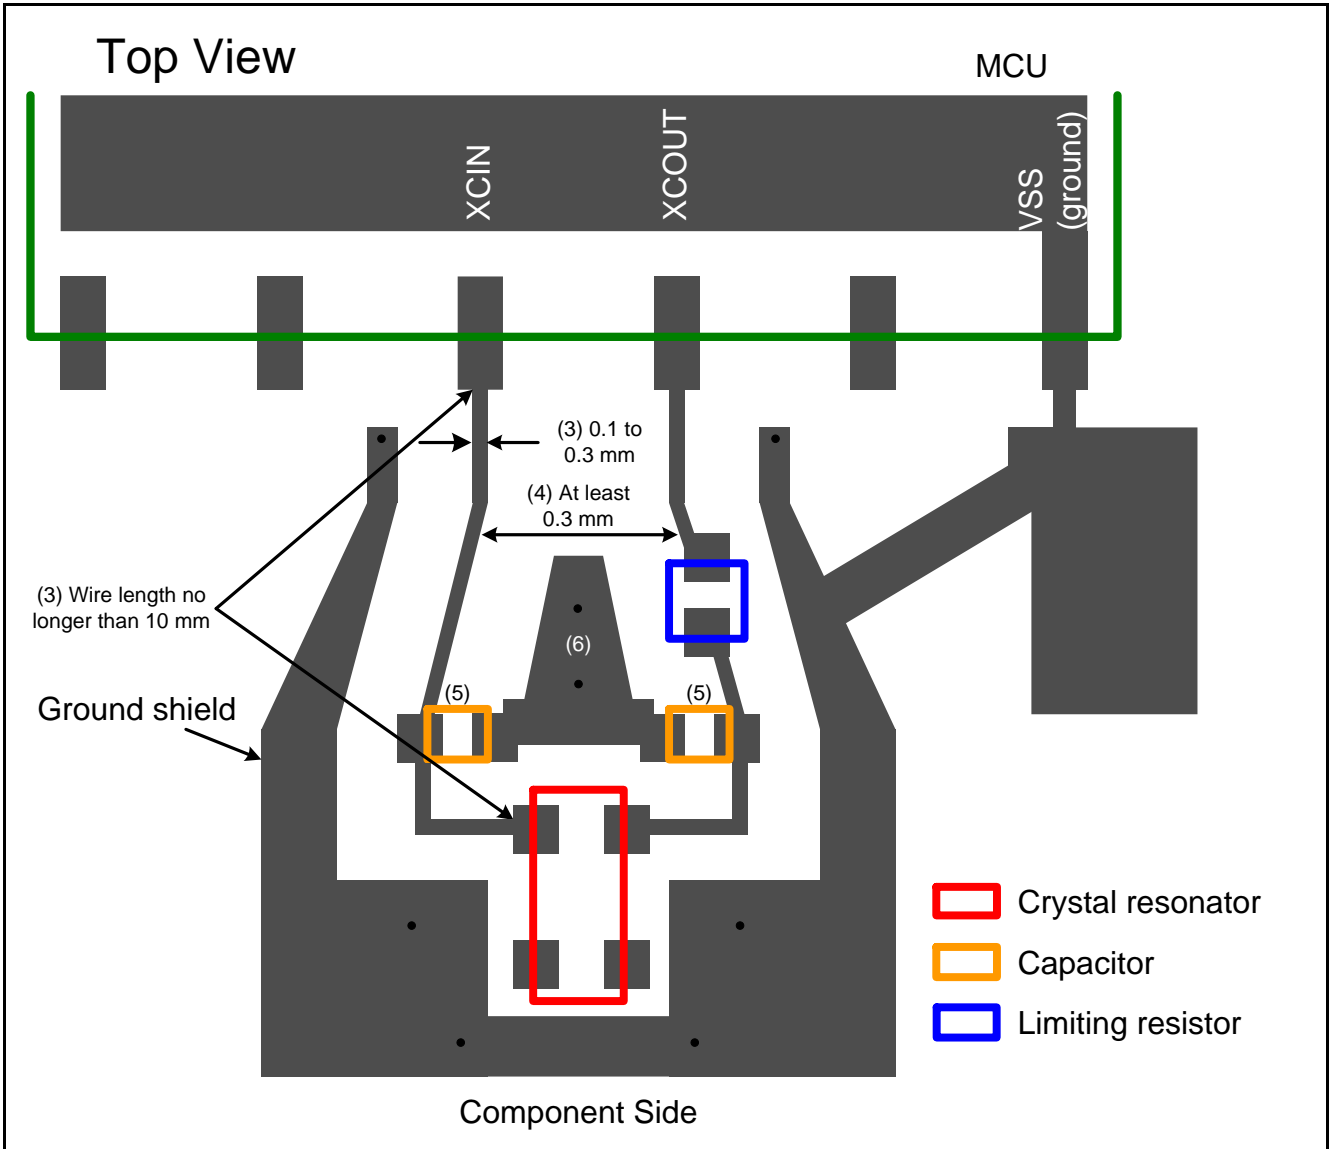
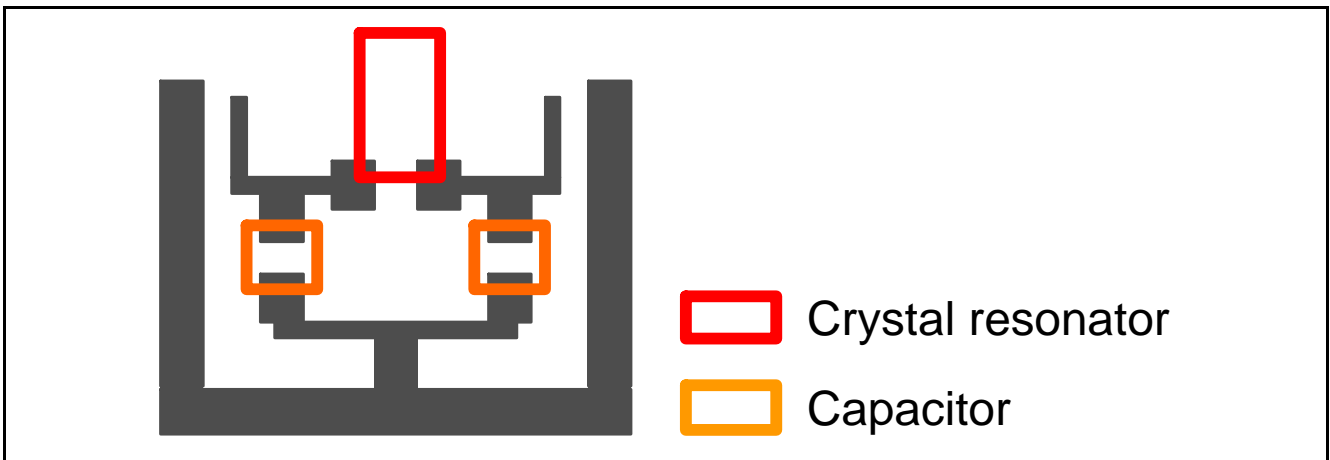

Figure 1.1 Example of Preferred Trace for XCIN and XCOU Wiring
Figure 1.2 Example of Alternate Trace for XCIN and XCOU Wiring
(1) to (6) below describe points on wiring for XCIN and XCOUW. Figure 1.1 shows an Example of Preferred Trace for XCIN and XCOUW Wiring. Figure 1.2 shows an Example of Alternate Trace for XCIN and XCOUW Wiring.
- (1) Do not cross the XCIN and XCOUW wires with other signal wires.
- (2) Do not add an observation pin to XCIN and XCOUW.
- (3) Make the XCIN and XCOUW wire width between 0.1 and 0.3 mm. The wire length from the MCU pins to the crystal resonator pins should be less than 10 mm, or at least as close to 10 mm if longer.
- (4) The wire connected to the XCIN pin and the wire connected to the XCOUW pin should have as much space between them (at least 0.3 mm) as possible.
- (5) Connect external capacitors as close together as possible. Connect the wire for the capacitors to the ground trace (hereinafter referred to as ground shield) on the component side. For details on the ground shield, refer to section 1.1.2. When the capacitors cannot be laid out as shown in Figure 1.1, use the layout shown in Figure 1.2.
- (6) In order to decrease the parasitic capacitance between XCIN and XCOUW, include a ground trace between the resonator and the MCU.